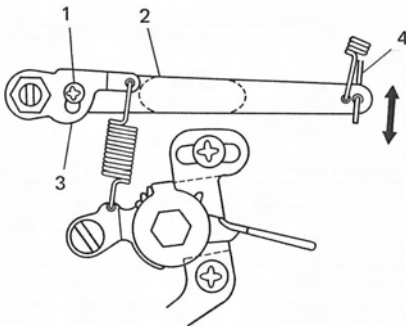

Fig. 23B
- a. First with engine off, loosen screw A (1).
Pull up governor outer lever (2) and push down governor spring lever (3), then at the same time retighten the screw A (Fig. 23B)